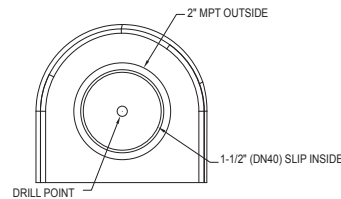

Figure 3.2
1) Adding bathroom fixtures - The Qwik Jon® Ultima is designed to accept bathroom fixtures utilizing the two side inlets. These inlets can be attached via the 2" MPT (outside diameter) or the 1-1/2" slip (inside diameter). These inlets must have the inner portion drilled out using a 1-3/4" (44 mm) hole saw (see Figure 3.2). This is to ensure there are no leakage problems from inlets not in use. When utilizing side inlets, install a check valve on the incoming line.